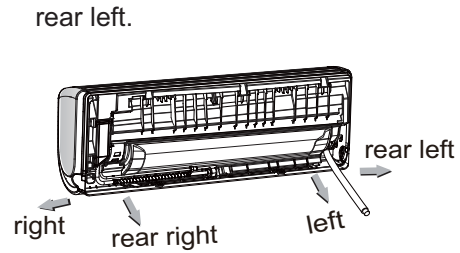

Fig. 8 – Refrigerant Line Routing
The refrigerant lines may be routed in any of the four directions shown in Fig. 8.
2. Remove knockout (see Fig. 8).